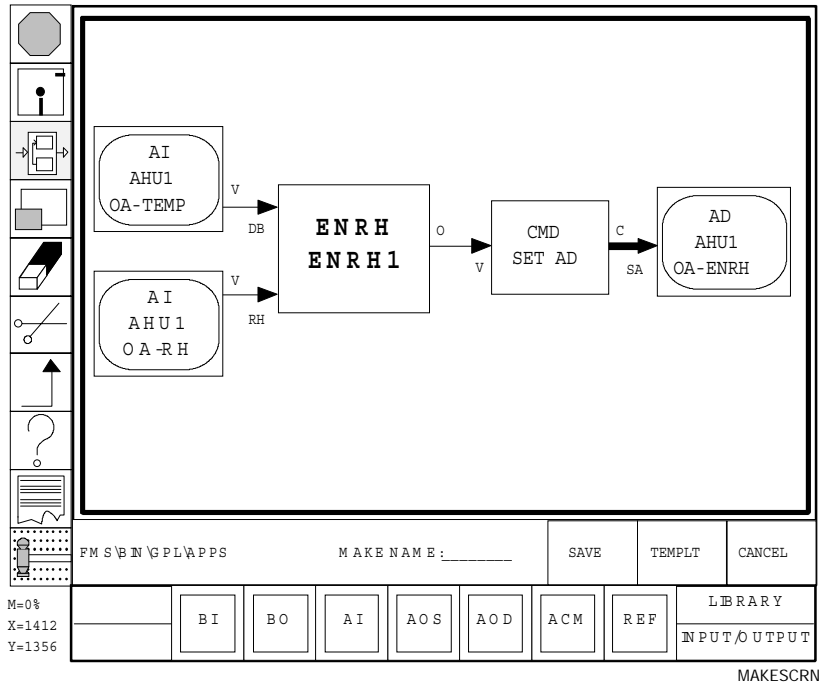

Figure 20: Compound Make Screen
6. Make sure the section of the diagram that you want to compound is totally enclosed inside the white box. Click left. The Compound Make screen appears (Figure 20).